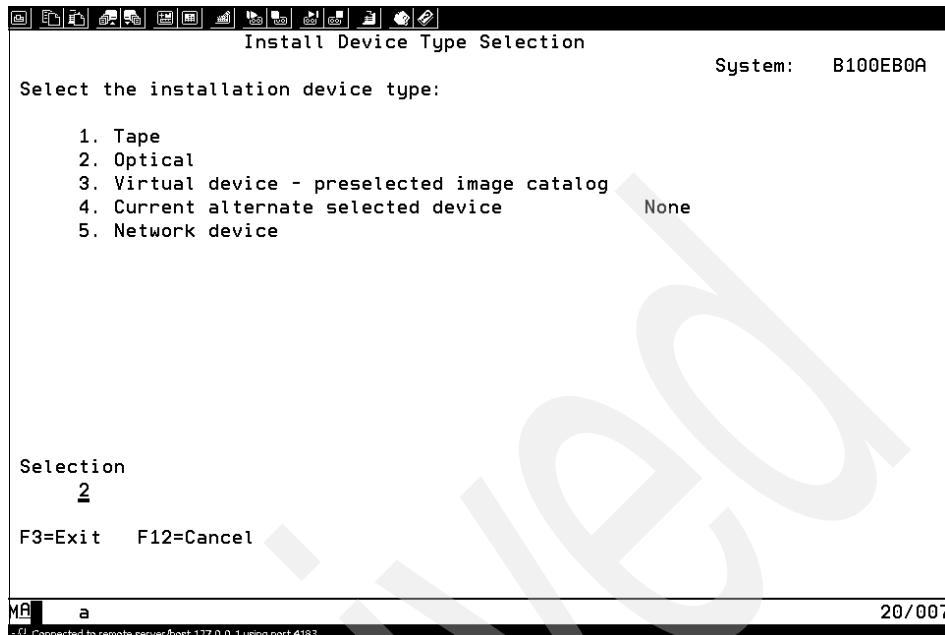

Figure 7-59 Select install device
1. On the IPL or Install the System panel on the console, type the number that corresponds to the correct device type as shown in Figure 7-59 on page 297. In our case we used option 2 for the assigned virtual optical devices.